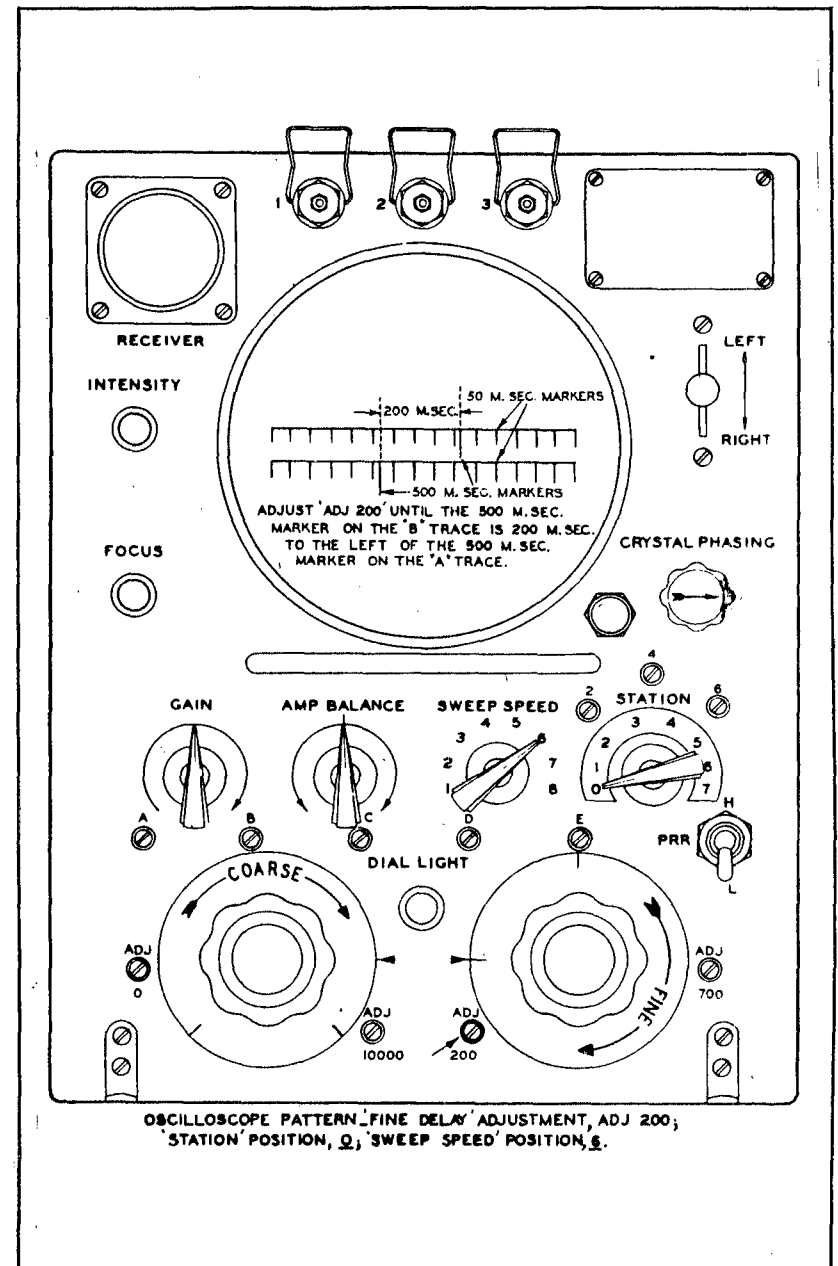

Figure 2-26. "FINE" Delay Adjustment, "ADJ. 200"—Using Marked Controls
1. Turn "SWEEP SPEED" to position "6." (See fig. 2-26.)
(c) Turn "SWEEP SPEED" to position "6." (See fig. 2-26.) Adjust the "COARSE" control to the center of its range. With the "FINE" control as previously set (right dial mark in line with the panel index), adjust "ADJ. 200" until there are four 50-microsecond spaces between the 500-microsecond marker on the B-trace and the 500-microsecond marker is to its right on the A-trace.
2. Adjust "ADJ. 200" to its mechanical center; then to the right or left to the nearest setting at which a 500-microsecond marker on the B-trace appear exactly 150 microseconds to the left of the 500-microsecond marker on the A-trace. (See fig. 2-26.)